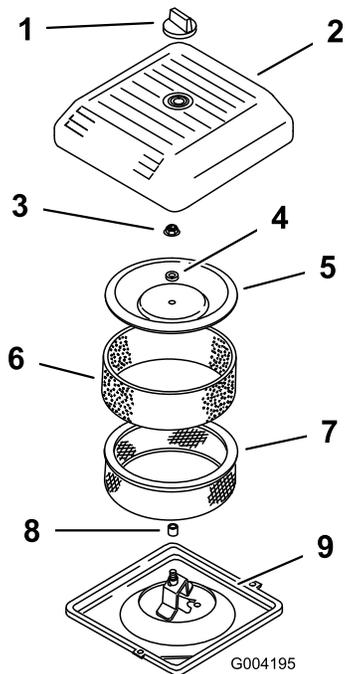

Figure 17
2. Unscrew the knob and remove the air cleaner cover (Figure 17).
3. Carefully slide the foam pre-filter off of the paper element (Figure 17).
4. Unscrew the cover nut and remove the cover, spacer and paper filter (Figure 17).
2. Place the air cleaner assembly onto the air cleaner base (Figure 17).
3. Install the cover, spacer and secure it with the cover nut (Figure 17). Torque the nut to 95 in-lb (10.7 N-m).
4. Install the air cleaner cover and secure with the knob (Figure 17).